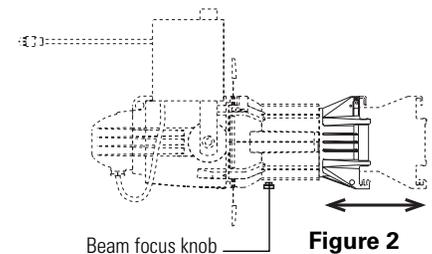

Figure 2
1. Loosen the beam focus knob located under the barrel as shown in **Figure 2**.